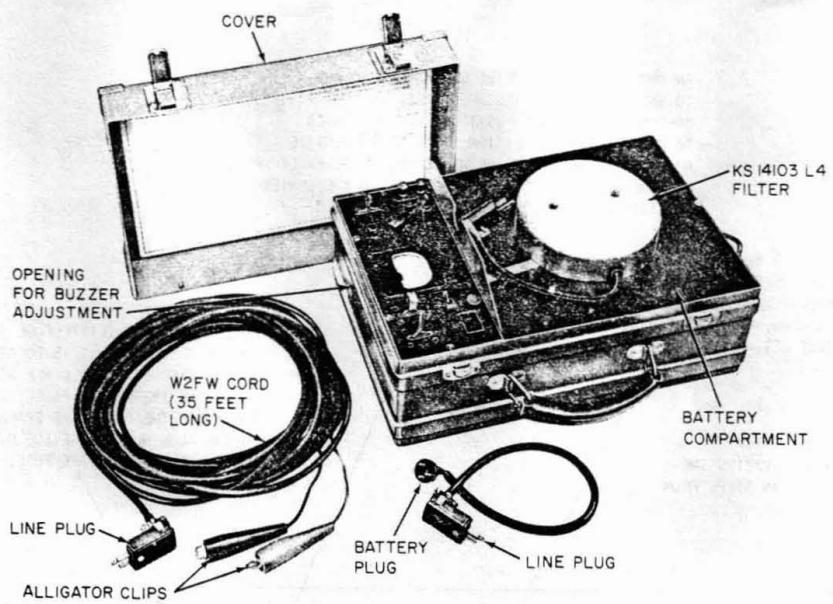

Fig. 1—KS-14103 L5 Test Set
3.02 The KS-14103 L5 test set equipped with the KS-14103 L4 filter is shown in Fig. 1. The overall dimensions of this set are 7-3/8 inches deep, 11-3/8 inches wide, and 17-1/4 inches long.